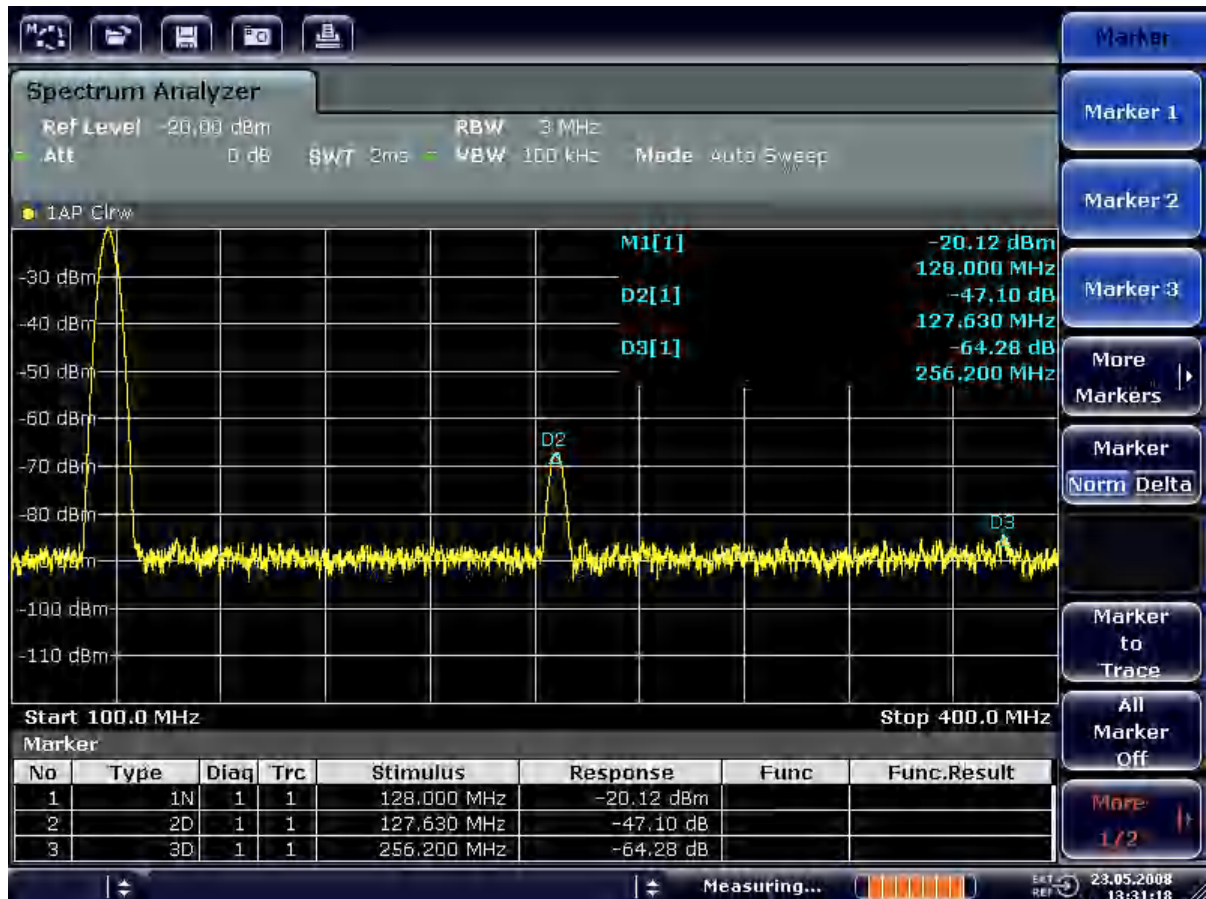

Figure 3-9: Measuring the harmonic suppression of the internal reference generator.
- b) In the "MKR" menu, press the "Marker 3" softkey. "Marker 3" is activated as a delta marker ("D3 [1]"). It is automatically set on the next largest harmonic of the signal. The frequency offset and level offset from marker 1 on the fundamental are displayed in the channel information bar (see Figure 3-9).